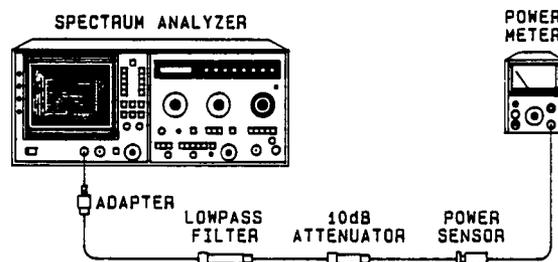

Figure 4-25. 1st LO Output Power Test Setup
3. Remove the 50 ohm termination from the LO OUTPUT and connect the equipment as shown in Figure 4-25.